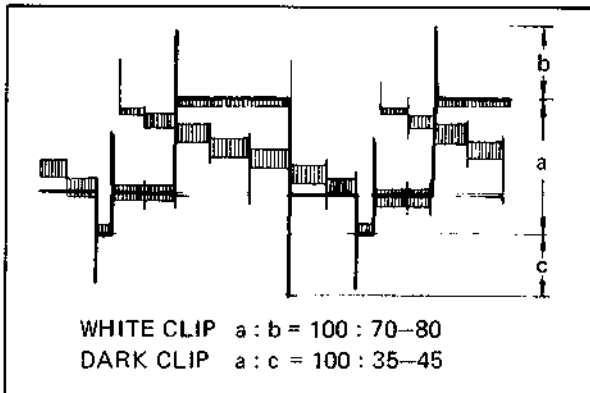

Fig. 5-29 White and dark clip adjustment
4. In the same condition, adjust R11 (DARK CLIP) so that the sync tip undershoot becomes 35% to 45%. See Fig. 5-29.